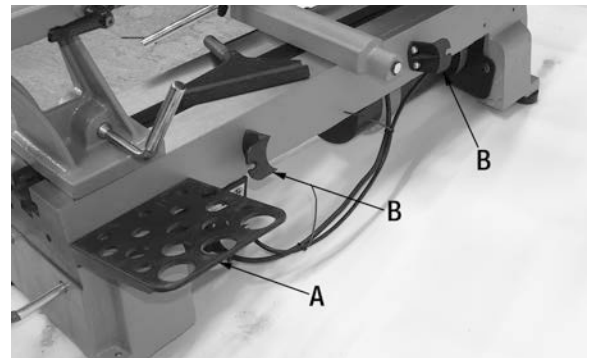

FIGURE 13
This wood lathe comes with a convenient tool storage rack (A) Fig.13, which can be installed to either the right side or left side, at the rear of the lathe bed. Install it to the bed using the supplied screwdriver and 2 pan hd. screws.
This wood lathe also comes with convenient power cord wrap posts (B) Fig.13 which get installed to the rear of the lathe bed using 2 pan hd. screws. Wrap the power cord around these posts during storage.